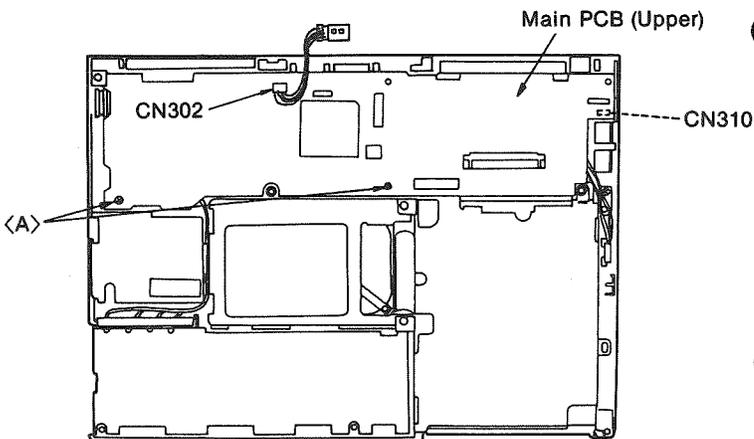

Figure 15
- (1) After removing the top case and the keyboard, remove two screws <A> (3×7mm), disconnect the connector (CN302) of Power/Battery LED PCB as shown in Figure 15.
- (3) Disconnect Beeper connector (CN310) as shown in Figure 15.